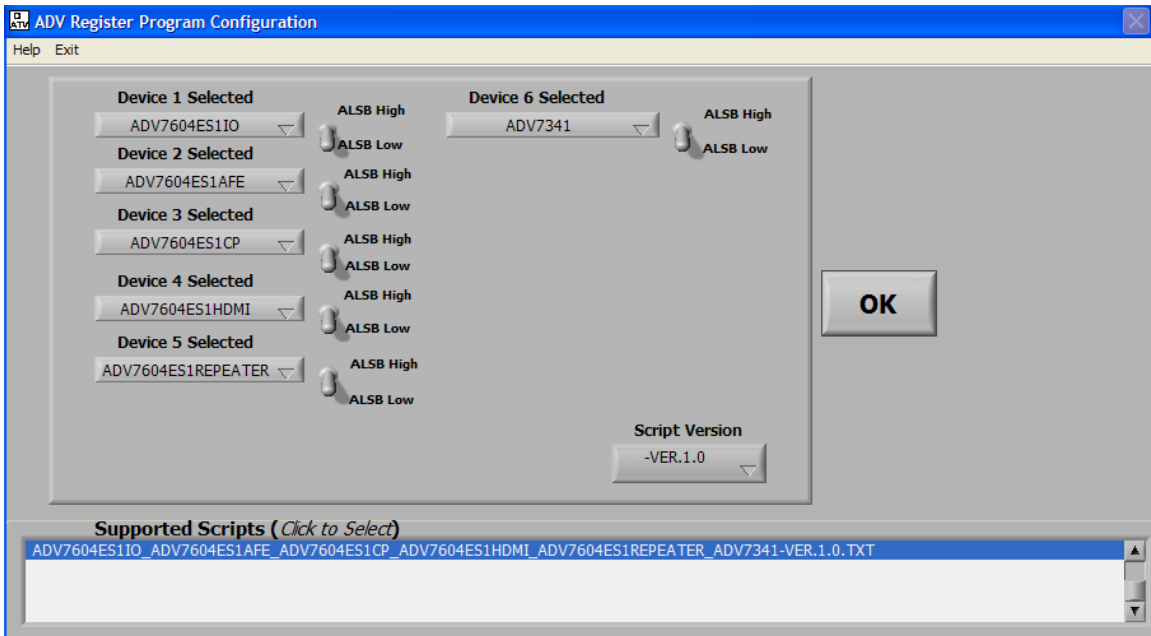

Figure 3 – ADV Register Program Configuration
- Select a script targeting the device on your evaluation platform (ADV7604 in this case) from the ADV Register Program Configuration window as per Figure 3.